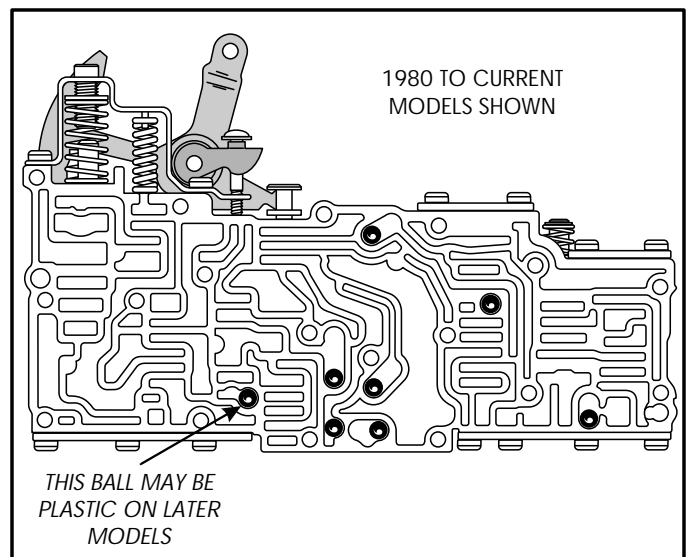

Figure 93
4. Remove the checkballs from the valve body cavities, as shown in Figure 93.
Note: There are two different checkball configurations. Shown in Figure 93 is the 1980 to current version.